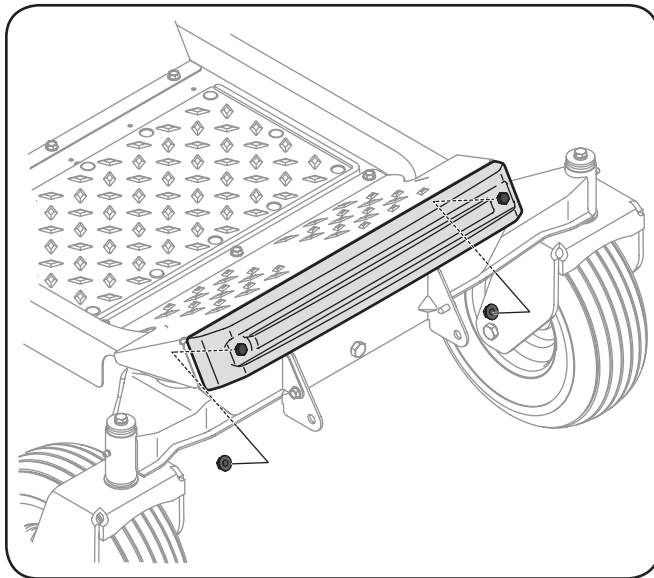

Figure 4-28
2. Position the weight bar onto the foot rest and secure it in place with two 3/8" flange nuts (712-04065) from the same hardware pack. See Figure 4-28.